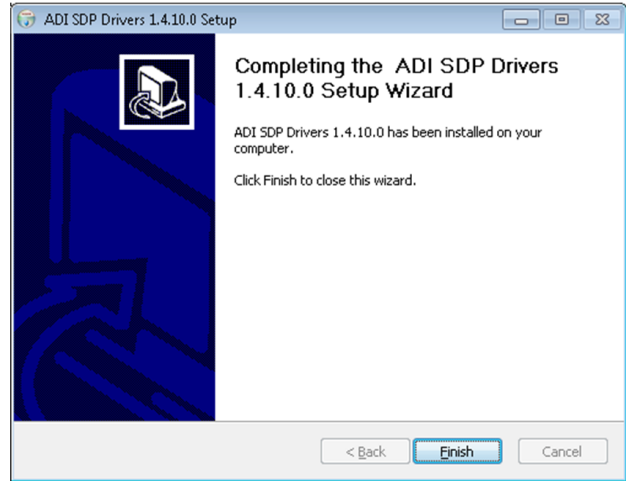

Figure 4. Finish Installation
5. Click Finish to install the SDP drivers on the PC (see Figure 4).